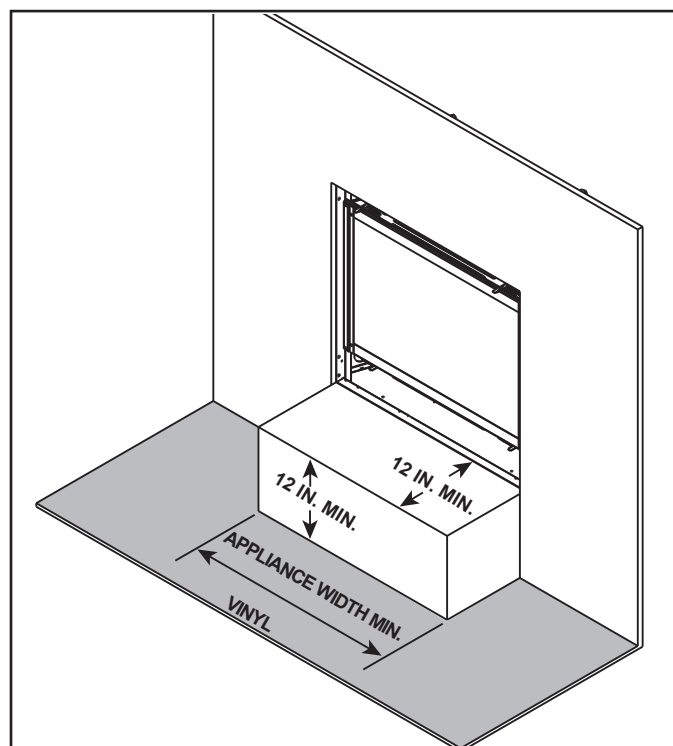

Figure 10.4 Vinyl Flooring Requirements
- When the appliance is raised off the floor 4 inches (102 mm) or more, combustible flooring in front of the appliance is acceptable. See Figure 10.4 for vinyl flooring recommendations.
Vinyl flooring is sensitive to heat. To avoid damage to the vinyl flooring, a 12 inch minimum x 12 inch minimum hearth is recommended when using vinyl flooring up to the wall. See Figure 10.4. If no hearth is used, it is recommended to provide a minimum of 24 inches of clearance in front of the appliance to the vinyl flooring OR the bottom of the appliance should be raised a minimum of 24 inches off of the floor to allow the vinyl flooring to be installed up to the wall.